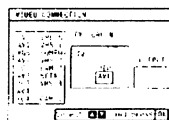

Fig. 52.
- 1 Select Video Connection with Δ or ∇ and press OK. The VIDEO CONNECTION menu appears. (See Fig. 52)